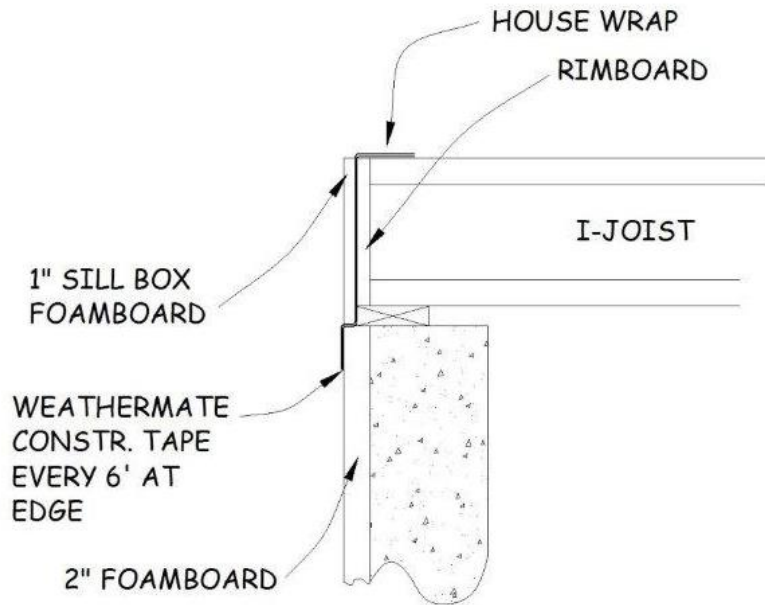

Figure 2-1. Sill Box Section.
7. On the first construction day, any rim board above porch areas must be covered with foamboard and house wrap (see Figure 2-1).